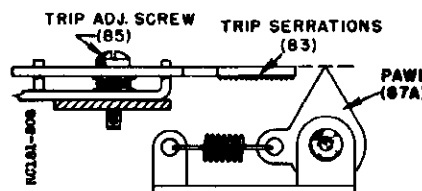

Figure 6 - Positioning Pawl Trip Serrations.
The ideal adjustment of screw (85) for best operation, is when the smooth side of the trip serrations (83) and the point of the pawl (87A) are horizontally even, as shown in Figure 6.